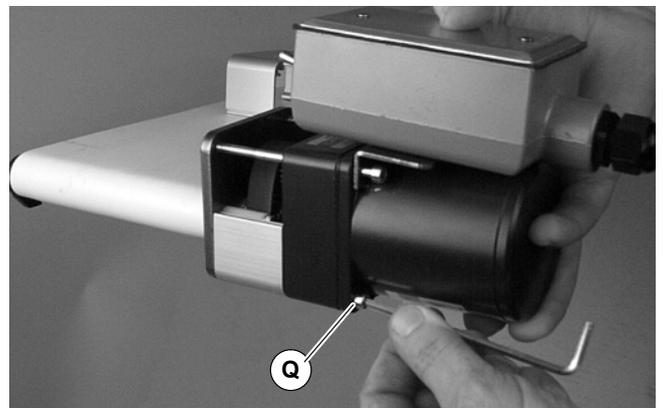

Figure 7
9. Insert gearmotor drive pulley into timing belt. Mount assembly with two (2) bottom screws (Q of Figure 7). Tighten to 5 Nm.
5. Place new timing belt (M) over driven pulley (J) and between belt flanges (S).
6. Insert gearmotor drive pulley into timing belt. Mount assembly with two (2) bottom screws (Q of Figure 7). Tighten to 5 Nm.